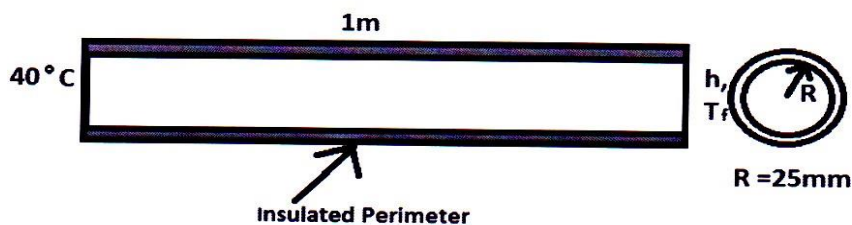

Figure 3
14. Determine the temperature distribution along the length of the rod (at $L/4$, $L/2$, $3L/4$ and L) as shown in figure 3, The rod with radius 25 mm is insulated at the perimeter. The left end has a constant temperature of $40 \text{ } ^\circ\text{C}$ and a free stream temperature is $-10 \text{ } ^\circ\text{C}$, Take, $K = 35 \text{ W/m } ^\circ\text{C}$, $h = 55 \text{ W/m}^2 \text{ } ^\circ\text{C}$.